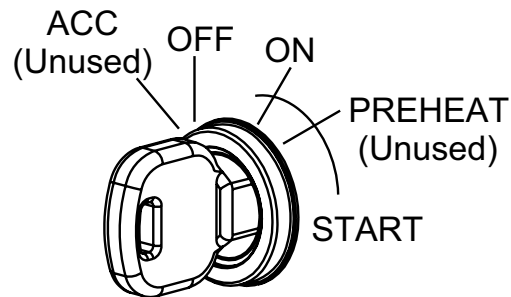

Figure 11. Ignition Switch and Key
3. Insert the ignition key into the ignition switch (Figure 11).